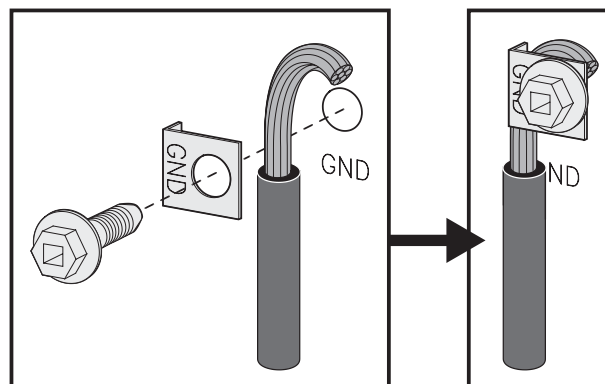

Fig. 17
3. (4-Wire Permanent Connection ONLY) Connect the ground wire lead (Green) to the frame of the appliance using the ground screw & plate as shown in Fig. 17. Be sure to install using the same hole in the frame where the ground screw was originally installed.